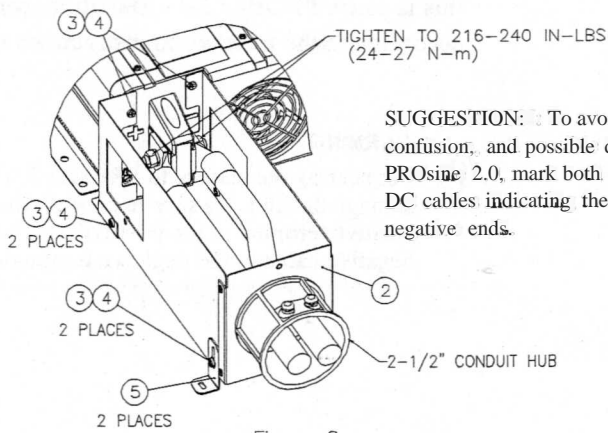

Figure 2
3. Attach the Base (Item 2) as shown in Figure 2.
4. Attach one bracket (Item 5) to each side of the Base (also shown in Figure 2). Fasten the brackets to the mounting surface using suitable fasteners for your installation (not supplied).
7. Terminate the cables with crimp terminals and connect the cables to the DC terminals on PROsine 2.0 using the nuts and split-washers supplied with the unit. The crimp terminals must seat directly against their corresponding DC terminals. Install the split-washers and nuts as shown in Figure 2. Tighten the nuts to 216-240 in-lbs (24-27 N-m).